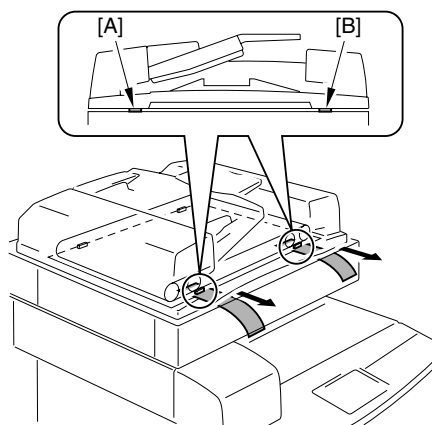

Fig. 3-1
- 1) Open the ADF. Place a single sheet each (normal paper, 64g/m2 or 80g/m2, 3cm x 150cm) at each of 2 positions (A, B) between the belt frame feet on the front side and the copyboard glass, and close the ADF. (See Figure 3-1)